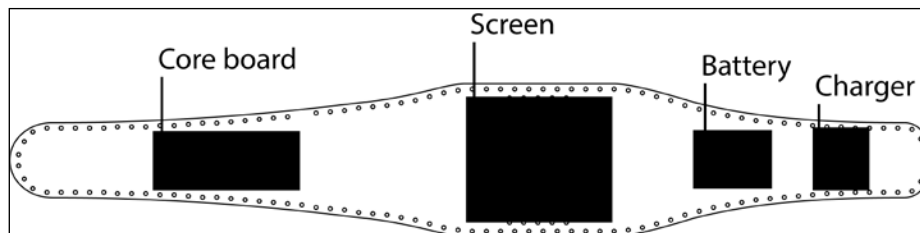

Figure 9.6: The placement of components on the watch template
Before we start soldering the components together, it is a good idea to place them onto the template in order to figure out the best location. In *Figure 9.6*, you will find the layout I was aiming for, which gives you a good general direction. In my case, I have very thin wrists so it is a good idea to put the components in place using sticky tape in order to wrap the template with the components around your wrist to see whether the placements works for your wrists. The important parts are that the screen needs to line up with the hole in the template and the micro USB connector on the battery charger. The USB connector needs to be placed close to the edge so that we can access it later on once everything is stitched together.
2. Follow the component layout in *Figure 9.6*, then glue the Particle Core board, battery, and battery charger in place.